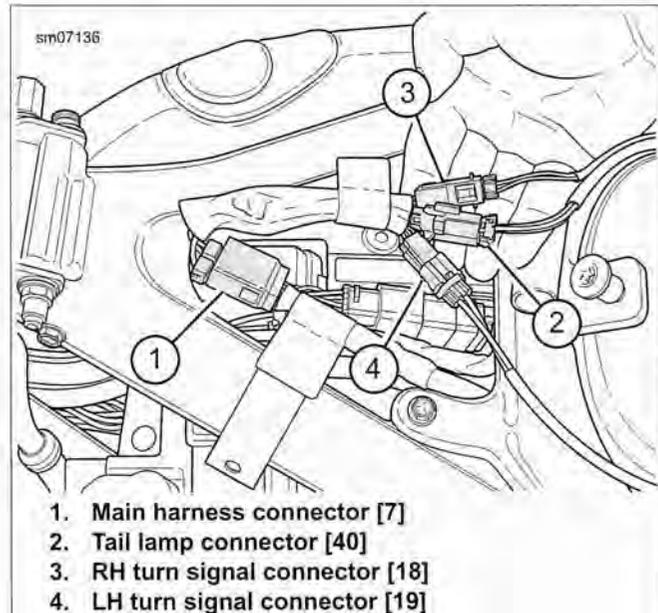

Figure 2-199. Turn Signal Wire Harness: XL 1200C/CP
3. See Figure 2-199. Disconnect the right [18] (3) and left [19] (4) turn signal connectors and the tail lamp connector [40] (2).
5. Remove bolts from right side of fender. Install fender strut cover with attached turn signal assembly to fender strut with the locknut (1).
6. Secure fender to strut with fasteners (4), washer (3) and locknut (1) in forward mounting hole. Install fastener (2), washer (3) and clip nut (5) in aft mounting hole. Finger-tighten screws only at this time.
- a. Tighten bolt (11) and seat post (7) to 96-156 **in-lbs** (10.9-17.6 Nm).
- b. Tighten turn signal stalk nuts (1) to 132-216 **in-lbs** (14.9-24.4 Nm).
10. See Figure 2-199. Connect the right [18] (3) and left [19] (4) turn signal connectors and the tail lamp connector [40] (2).